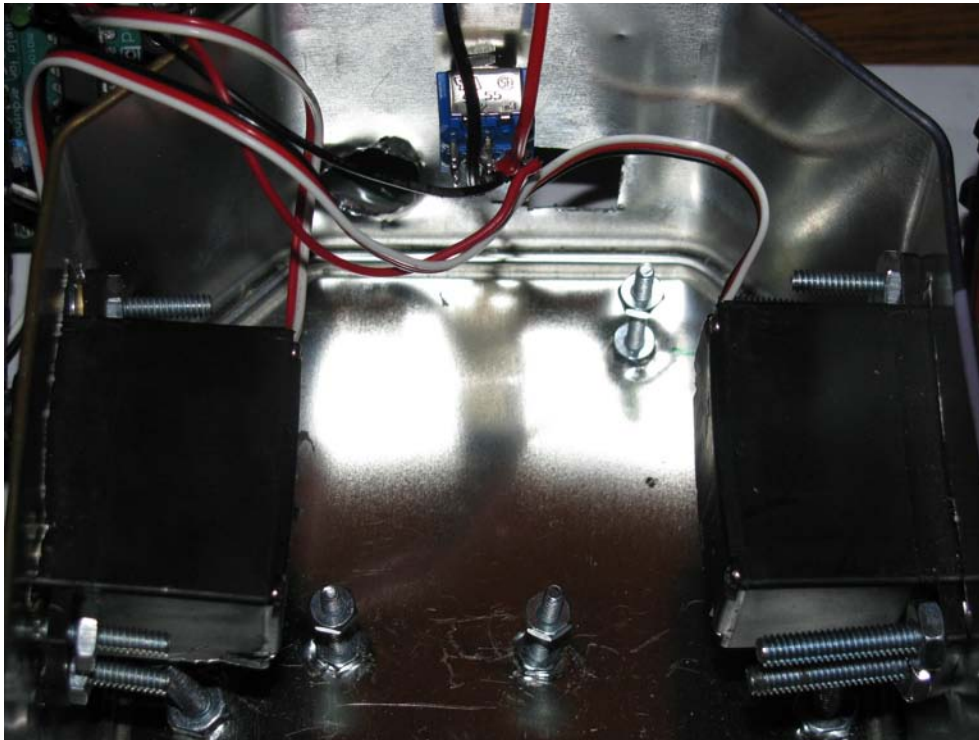

Figure 4-31. Install mounting bolts for Arduino in the frame.
6. Mounting the Arduino. Now we need to add some mounting bolts to the base of the frame to hold the Arduino. Place your Arduino in the bottom of the tin (centered), and mark a hole for the USB programming port to protrude from the back of the frame (you might also want to mark a hole for the DC power port). Using a 1/2-inch bit, drill a hole for each port at the marked spots. With the USB port extending slightly through its new access port in the back of the frame, mark the three mounting holes on the base of the frame with a permanent marker. Drill these holes with a 1/8-inch drill bit and mount (3) #6 bolts (0.5 inch-1 inch long), securing each tightly (see Figure 4-31).